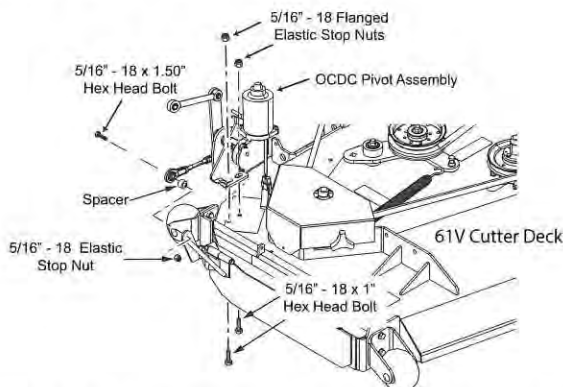

Figure 3-12. STCII/SVRII/STTII/SCZII /61V Pivot Install
17. Install the E-OCDC pivot assembly to the cutter deck. Secure using two (2) 5/16-18 x 1" bolts and two (2) 5/16-18 flanged elastic stop nuts. Do not tighten the hardware at this time. See Figure 3-12.
18. Secure the lower adjustable linkage to the block off plate weldment using one (1) 5/16" -18 x 1-1/2", one (1) spacer, and one (1) 5/16" elastic stop nut. See Figure 3-12.